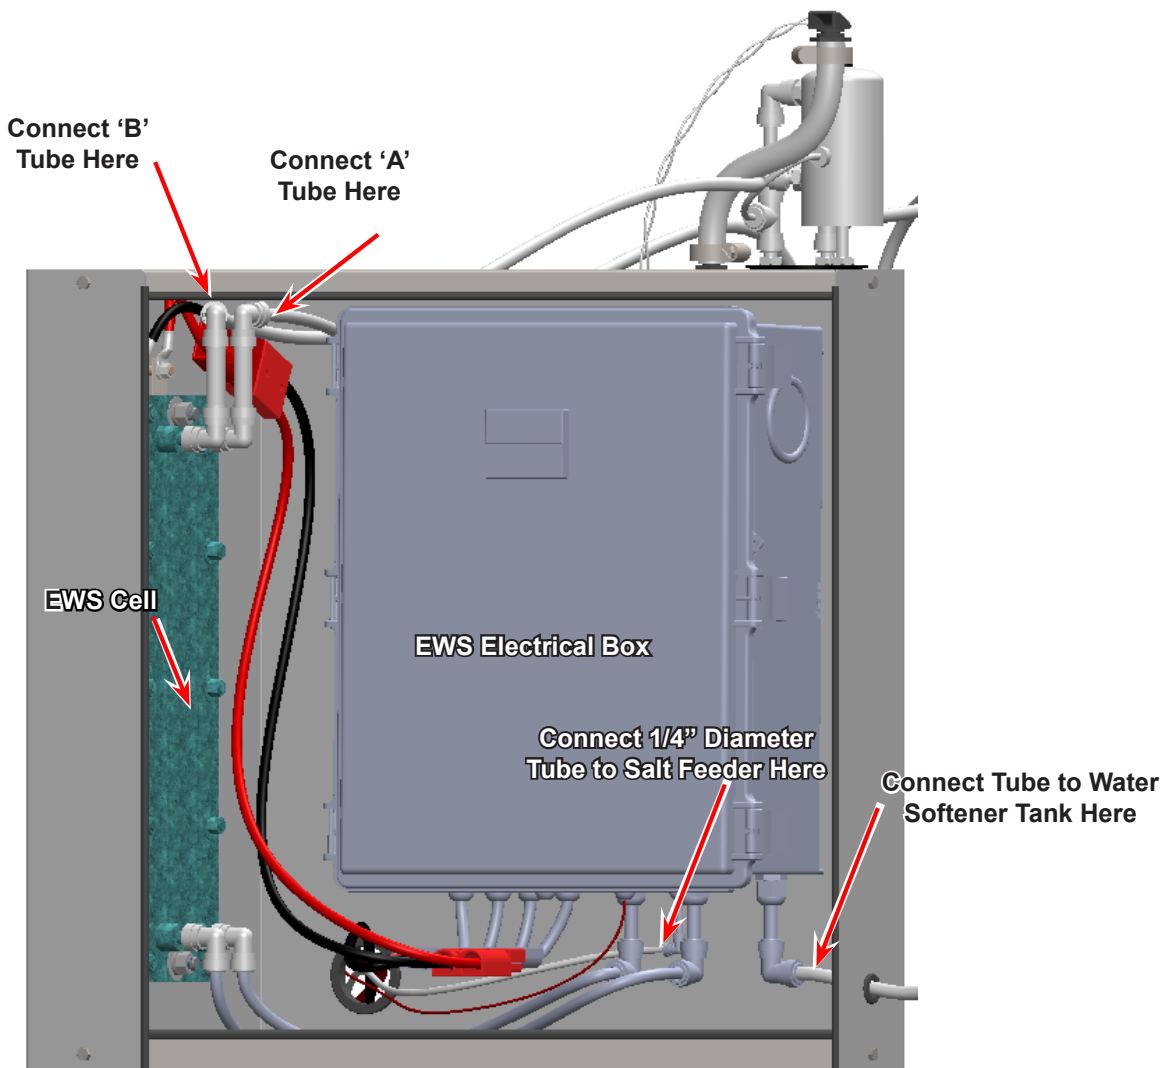

Figure 85. Connect 2 Tubes from Electrical Box and 2 Tubes from Cell
9. Connect one ½" diameter tube from the Water Softener to the bottom of the EWS Electrical Box (Figure 85).
10. Connect a second $\frac{1}{2}$ " diameter tube to the Cell as shown in Figure 85. This tube, for the 'B' water, will be routed to the Safety Shutoff EWS Cover located on top of the HydraCradle (see page 64).
11. Connect a third $\frac{1}{2}$ " diameter tube to the Cell for the 'A' water as shown in Figure 85. This tube will be routed to the drain receptacle (see page 64).
12. Using the $\frac{1}{4}$ " diameter tube, plumb the salt line from the saturated salt feeder into the bottom of the EWS Electrical Box (see Figure 85).
Make sure 'A' and 'B' tubes are correctly oriented and attached to the Cell as shown in Figure 85. If the tubes from the Cell are cross connected, the EWS will not function correctly